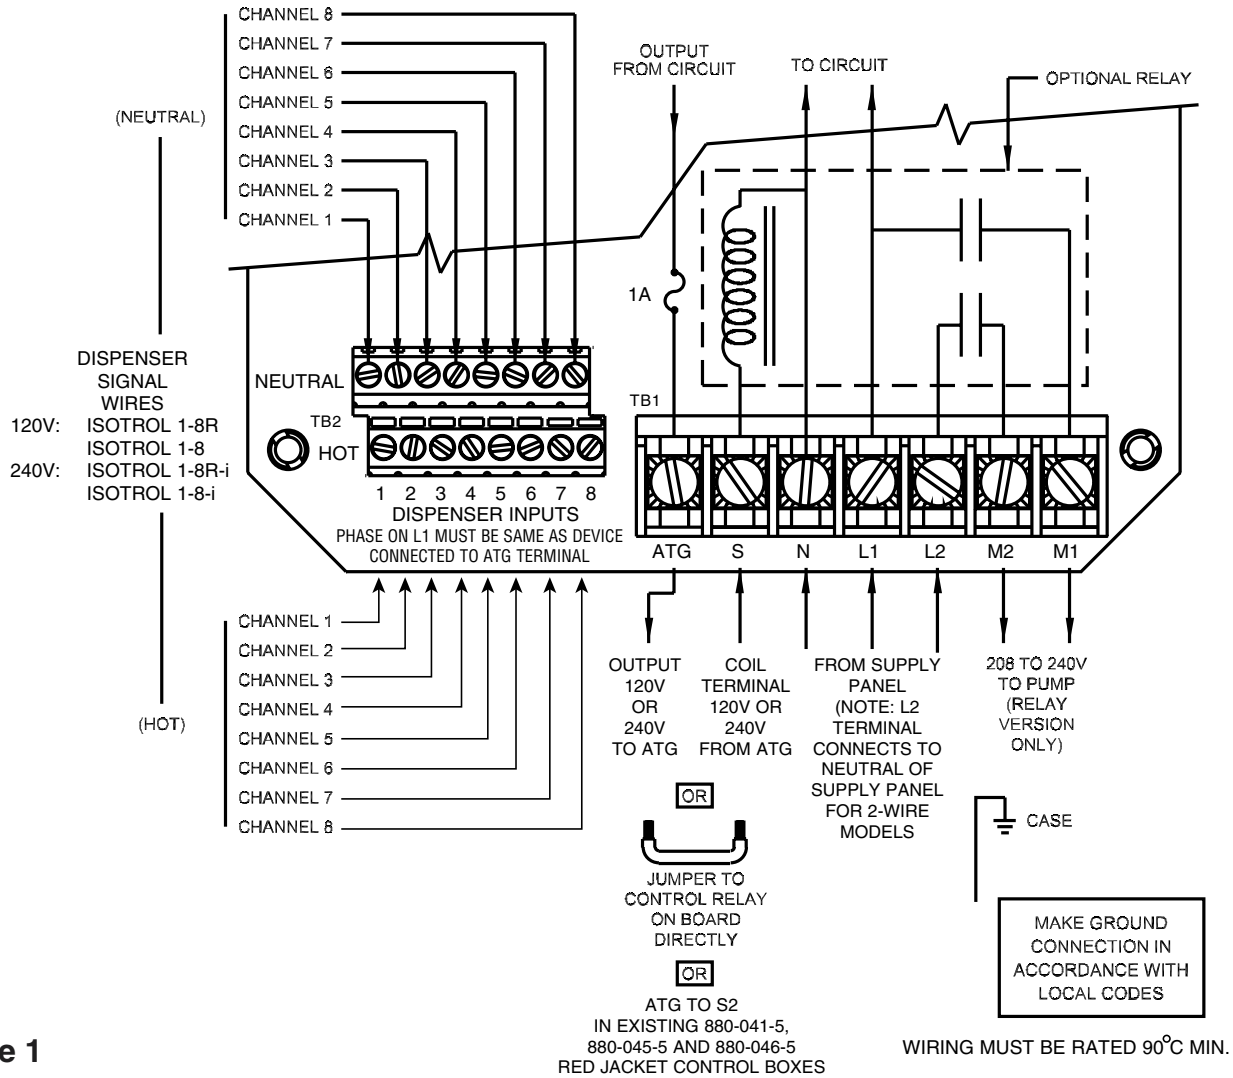
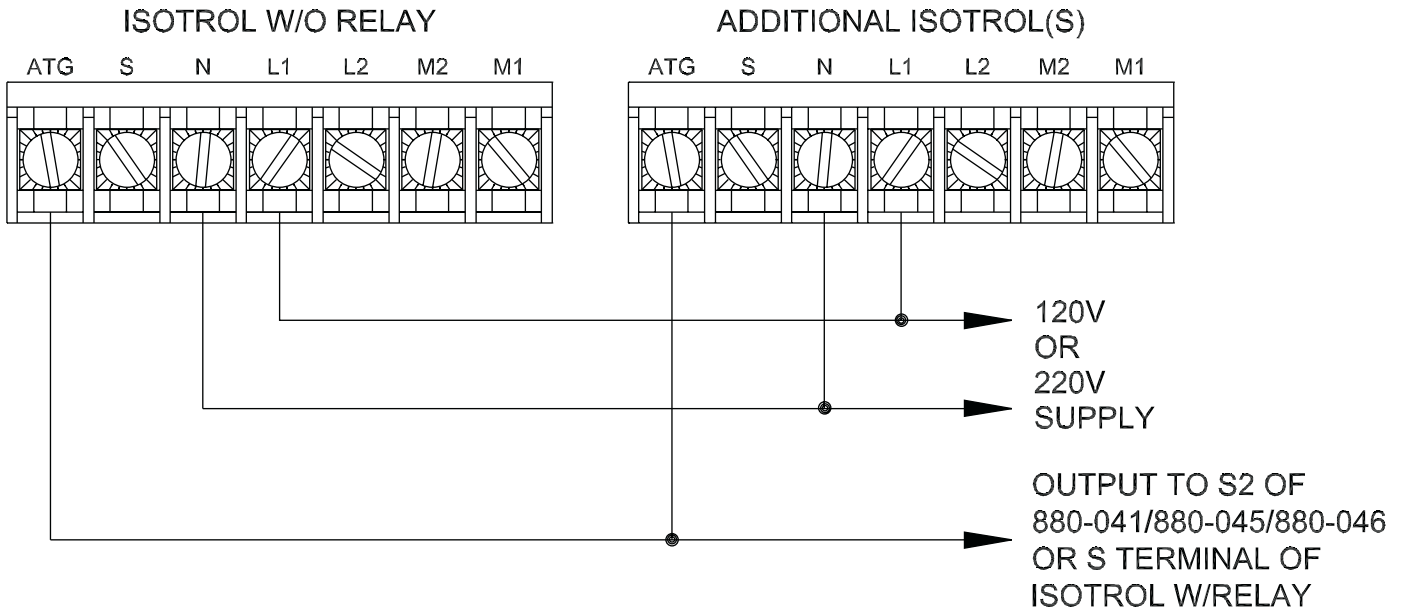

Figure 1
Figure 2
The voltage in the device description above identifies the circuit board power, dispenser input signal levels, and the coil rating for the optional relay. Control boxes with relays installed have contacts rated DPST 30A, 240V, 50/60 Hz. Refer to Figure 1 for correct electrical connections to the control box.
3. Use Figure 1 above or the diagram on the inside of the enclosure lid to connect input power to the L1, L2, and N terminals of TB1 (10 to 18 AWG). A connection to the L2 terminal is only necessary on units that have relay. For multiple box installations refer to Figure 2.